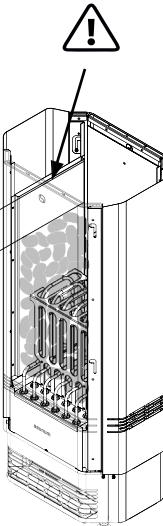

Figure 8
3. Fill the stone basket by hand with heater stones up to the openings of the air ducts (6"-8") as shown in **Figure 8**.